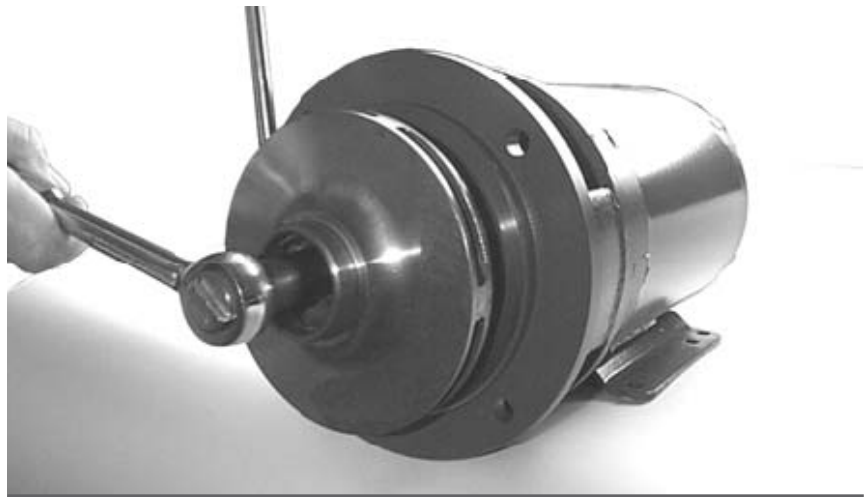

Figure 1 Back off the impeller retaining assembly.
6. Insert a screwdriver in one of the impeller waterway passages and back off the impeller retaining assembly with a socket wrench, as shown in Figure 1.